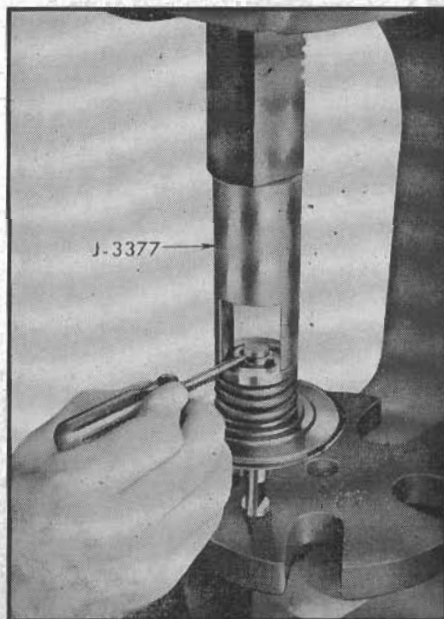
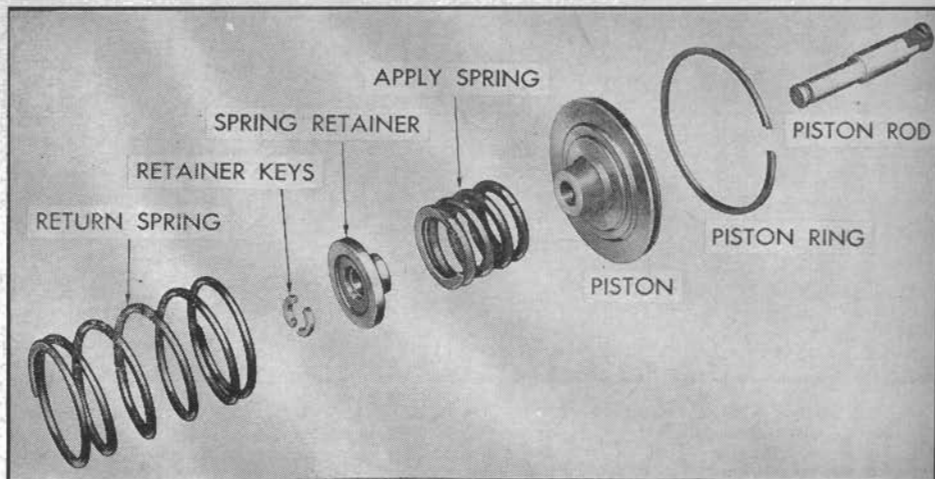

Fig. 51 Removing reverse servo piston keeper. 1950-52
Fig. 52 Layout of reverse servo piston. 1950-52
1. Place reverse servo piston in press and, with tool J-3377, Fig. 51, compress piston spring and remove spring retainer key and retainer. Remove piston from piston shaft. Fig. 52 shows a layout of reverse servo piston parts.